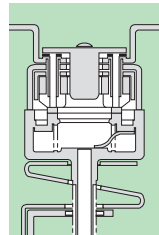

Fig. 1
- at the beginning of an opening cycle, the main contacts and the arcing contacts are closed (fig. 1).
Using the permanent current value  $I_p$ , figure 1 can be used to determine the maximum duration of  $T_{oc}$  along line 1.